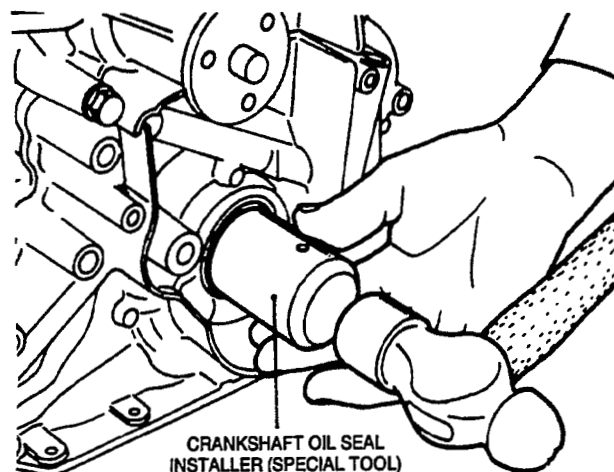

FIGURE 9-42. INSTALLING FRONT OIL SEAL
12. Install a new crankshaft oil seal (Figure 9-42). Apply engine oil to the oil seal lips and insert the oil seal by hand until it touches the front case. Install in case using special tool "Crankshaft Oil Seal Installer".